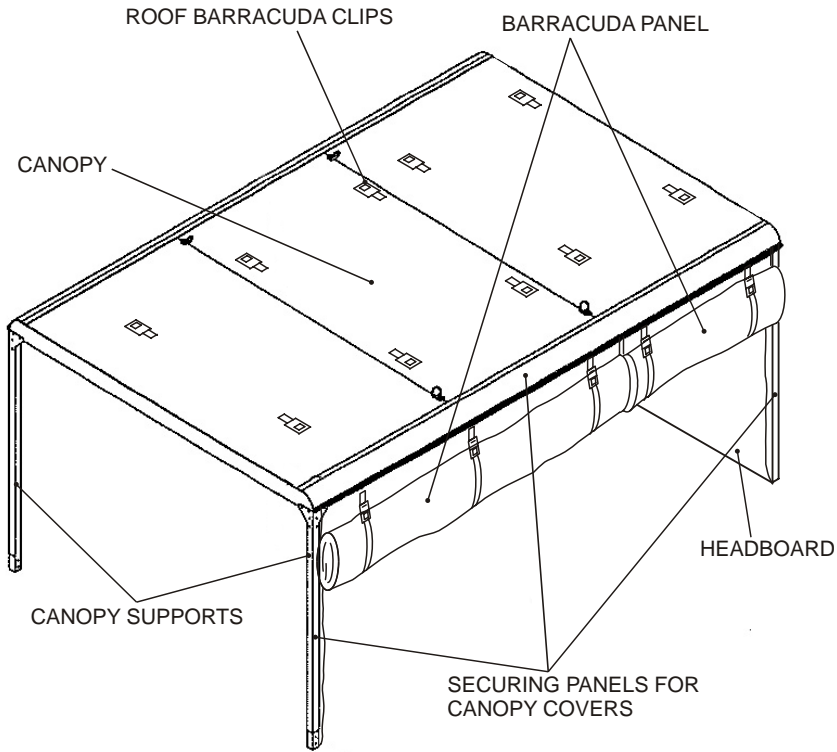

Figure 6 Canopy Assembly
10. The canopy assembly comprises of a roof assembly and two roof supports (Figure 6). The front of the canopy assembly is supported by the headboard assembly and the rear of the canopy is supported by the two supports. The roof assembly comprises of a series of support beams welded to form the roof shape and covered by three roof plates. Four tie down points allow for equipment to be secured on the top of the canopy. Three roll down barracuda panels are attached to the canopy for weather protection. Securing clips allow these panels to be either be rolled up to the top of the canopy or be rolled up and positioned on the top of the canopy.